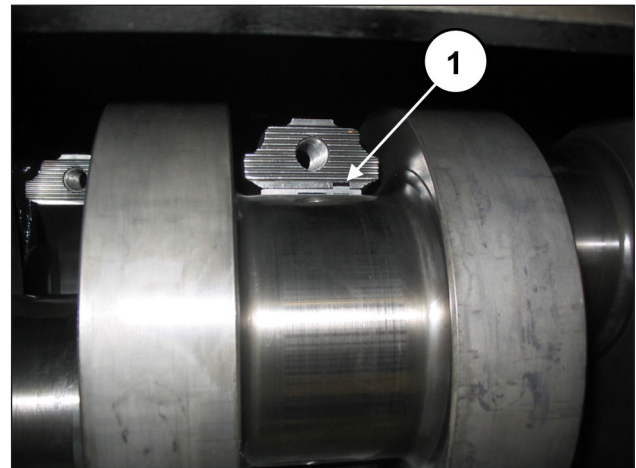

Fig. 60
For proper assembly of the half-bearings, ensure that the reference tab on the half-bearings are positioned in their housing on the half-conrod (pos. ①, Fig. 60).